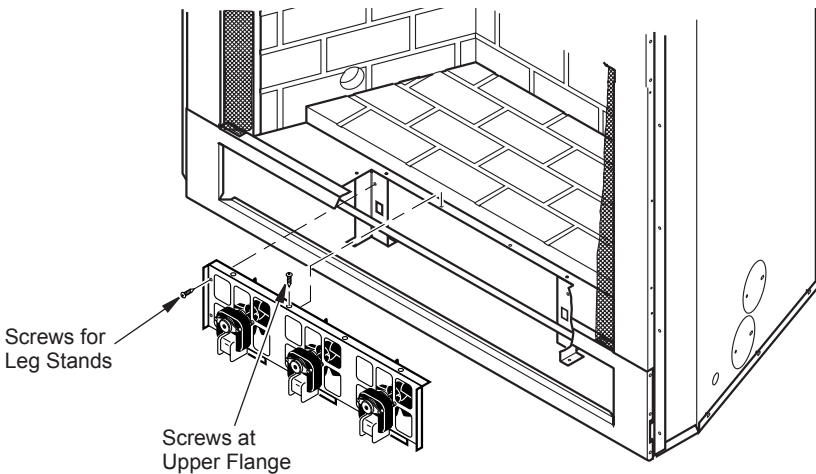

Figure 4: Mounting BK3 Blower
6. Place fan assembly with blades pointing towards rear of fireplace and in between two leg stands. See Figure 4, page 2.
NOTE: Position shown in Figure 4 is for 36" and 42" models. For 32" models, rotate blower so upper flange is on the bottom and fan blades are toward rear of unit.
7. Using 2 of the screws provided, fasten upper flange of blower bracket to hearth pan. Fasten end flanges to leg stands with remaining 4 screws. See Figure 4, page 2.